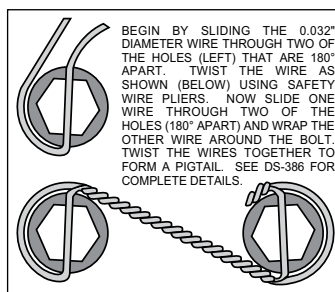

Figure 5. Safety Wire Diagram
•Once the caliper positions have been determined, remove both the service (17) and EPB (23) calipers, leaving both brackets in place on the backing plate. For the EPB bracket, remove the bolts one at a time, apply red *Loctite*® 271 to the threads, and torque to 35 ft-lb. The service caliper bracket will be final installed after shimming is determined.
•Orient the rotor (13) and the hat (14) as shown in Figure 1 and Photo 8. Attach rotor to hat using bolts (15) and washers (16). Apply red *Loctite*® 271 to the bolt threads and torque to 155 in-lb using a criss-cross pattern. For an added measure of security, the bolts may be safety wired using standard 0.032 inch diameter stainless steel safety wire as shown in Figure 5. Please refer to Wilwood's data sheet DS-386 (available at www.wilwood.com/Pdf/DataSheets/ds386.pdf) for complete safety wire installation instructions.